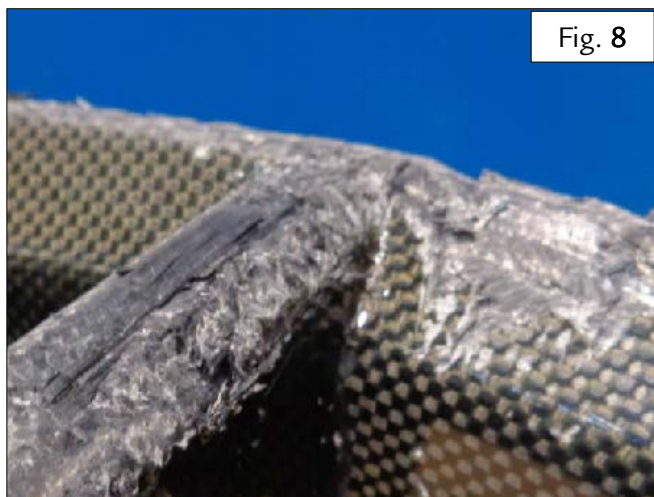

Fig. 8
- Damage and abrasion to rim and spoke of wheel (Fig.8).